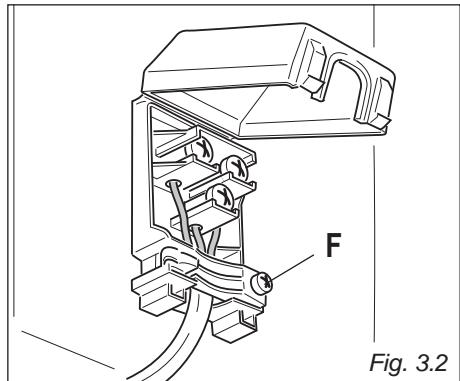

Fig. 3.2
- Open the cable gland by unscrewing screw "F" (fig. 3.2), unscrew the terminal screws.